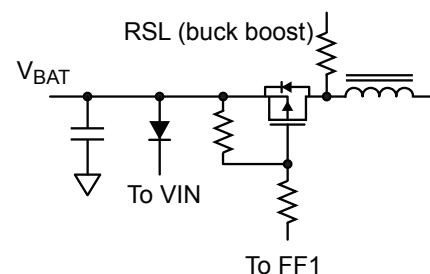

Figure 3. Example of a supply isolation MOSFET
The FF1 output can also be used with pull-up resistors and a P-channel MOSFET in the supply, to isolate the switching elements and the load from the supply. This MOSFET should be connected, as shown in figure 3, with the source connected to the supply and the drain connected to the inductor of the converter.
**Reverse Supply Protection** Protection for the A6268 is provided by an external low current diode between the supply and the VIN pin, as shown in the Functional Block Diagrams section. The isolation MOSFET shown in figure 3 is only able to provide isolation when the supply polarity is correct. However, with an additional P-channel MOSFET, it is also possible to provide reverse battery protection to the switching elements and the LEDs. The additional FET should be connected, as shown in figure 4, with the drain to the supply and the source to the source connection of the original isolation MOSFET.
In the complete circuit, consideration should be given to limiting the maximum gate-source voltage of the FET. If the supply voltage is likely to exceed 20 V, then either: a Zener clamp must be added in parallel with the gate-source resistor to prevent damage to the FET, or a second resistor added as shown in figure 3.